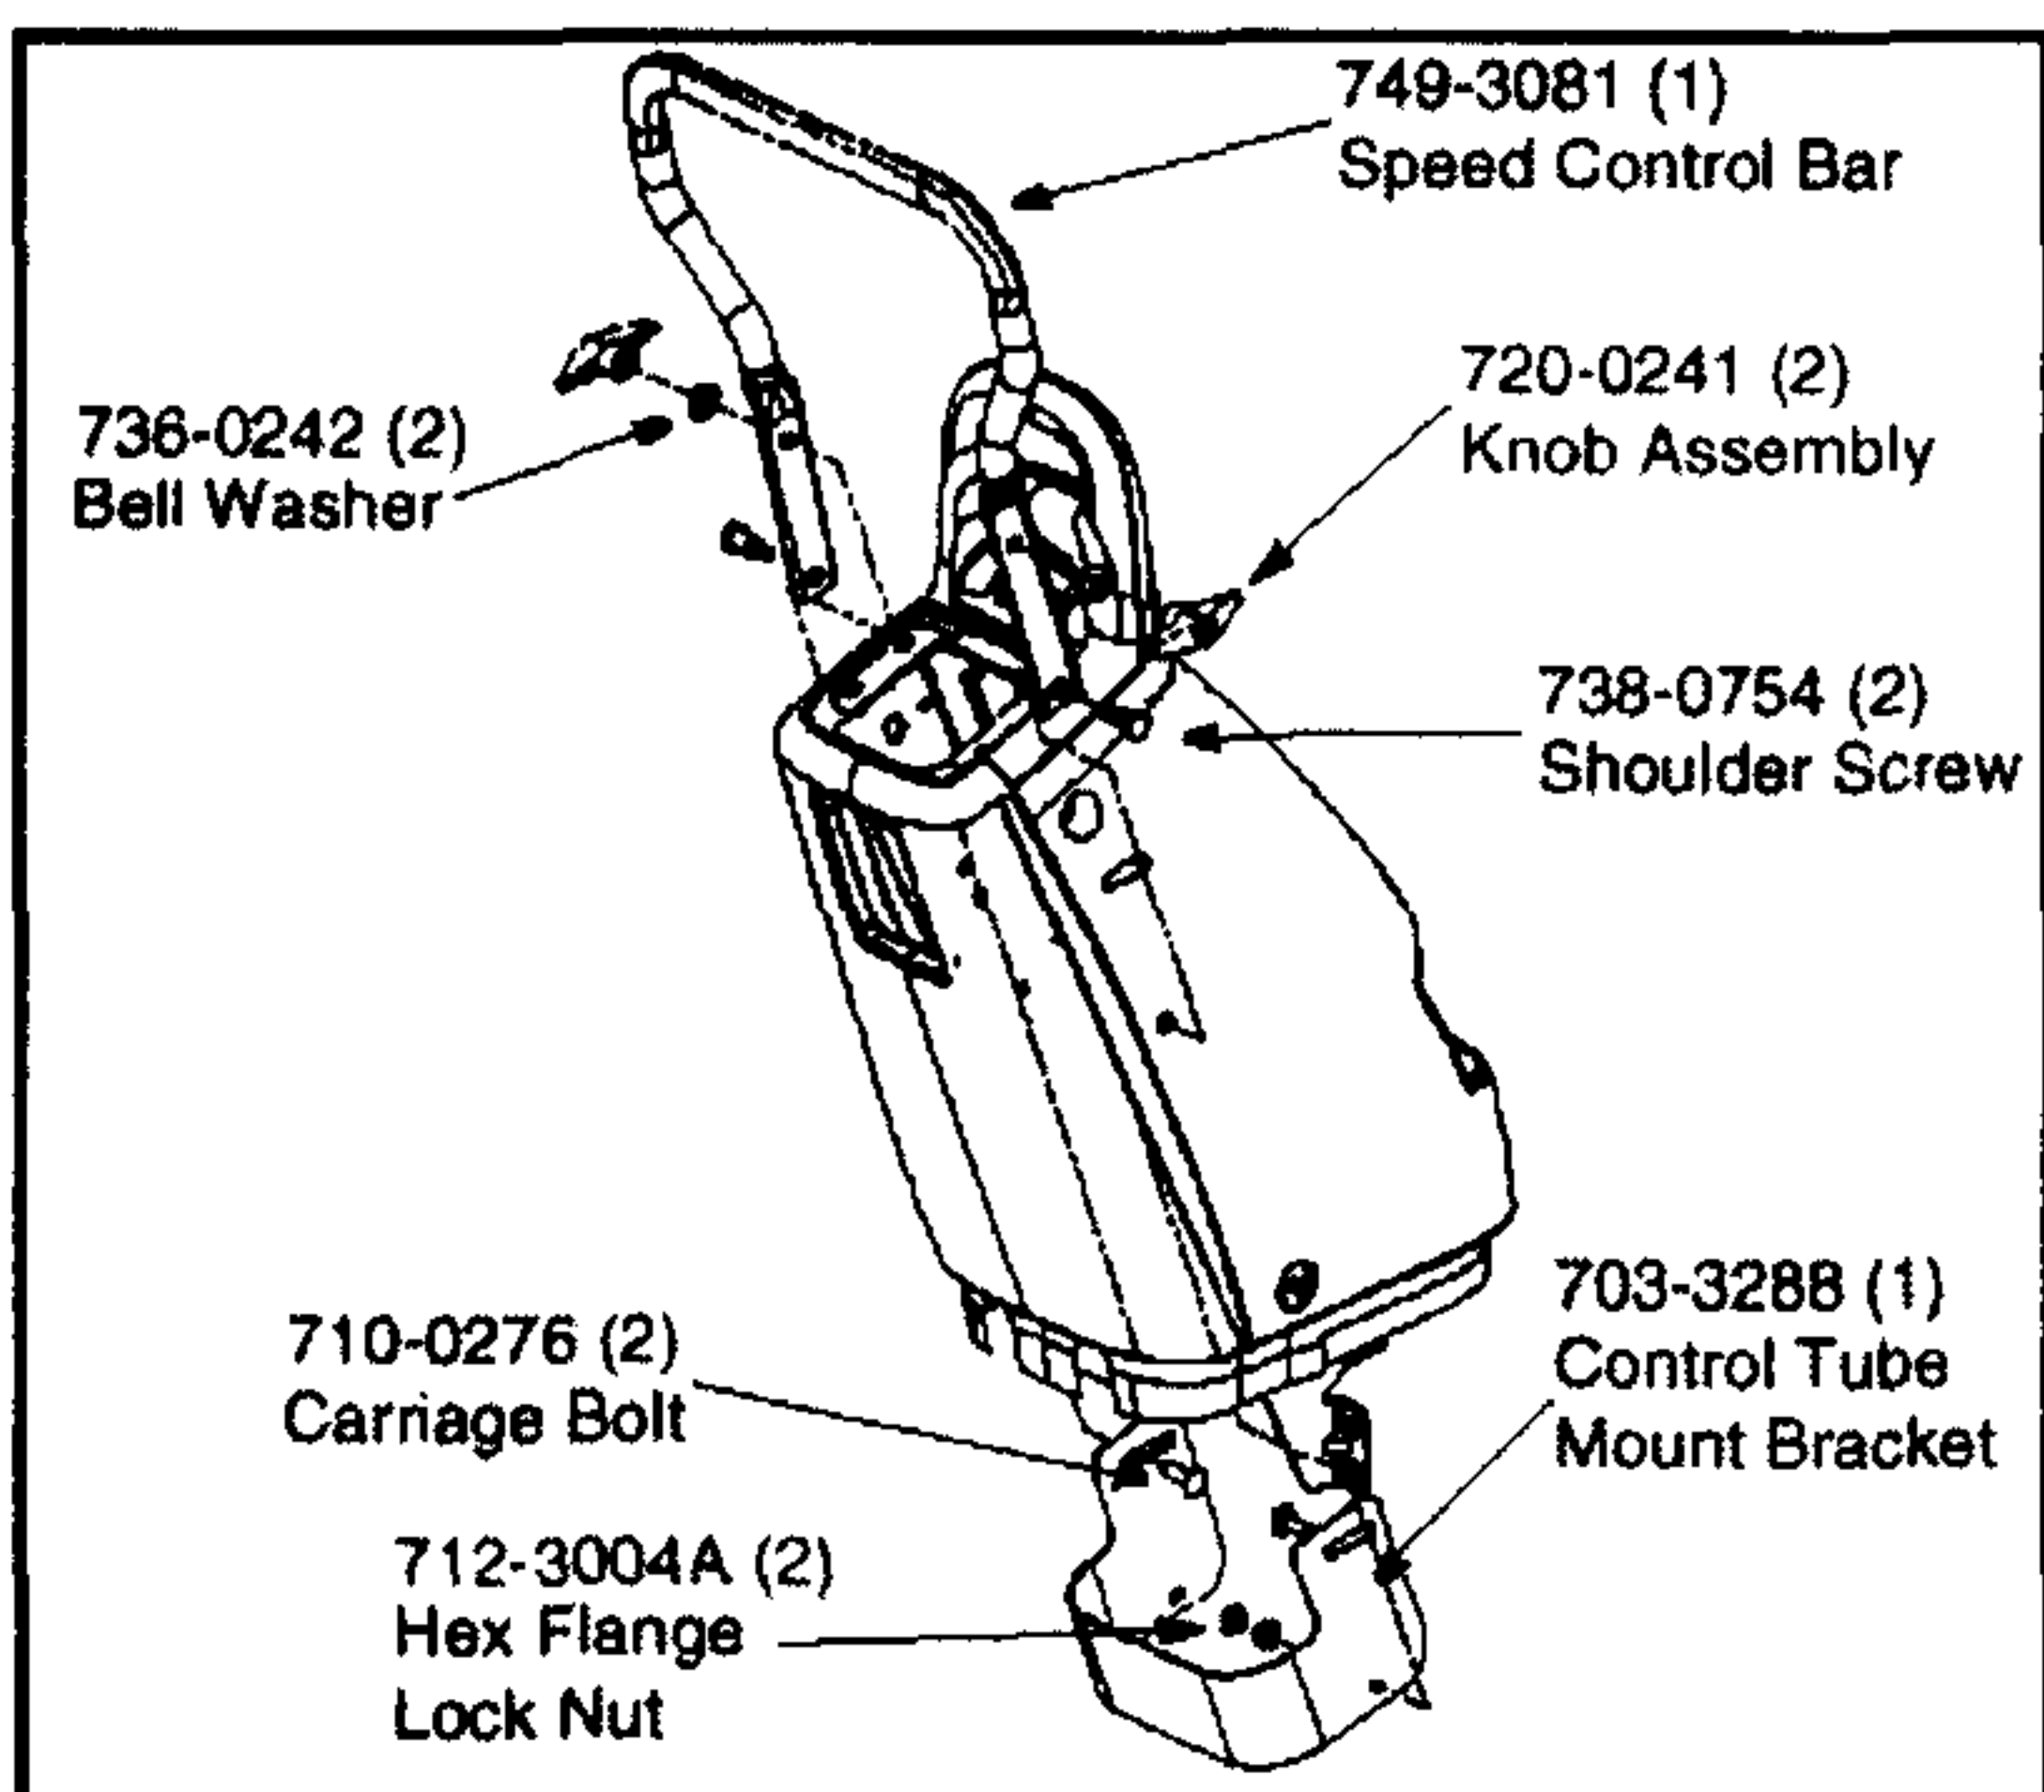

Figure 3
11. Mount the speed control bar using the appropriate hardware onto the plastic console. See Figure 3.